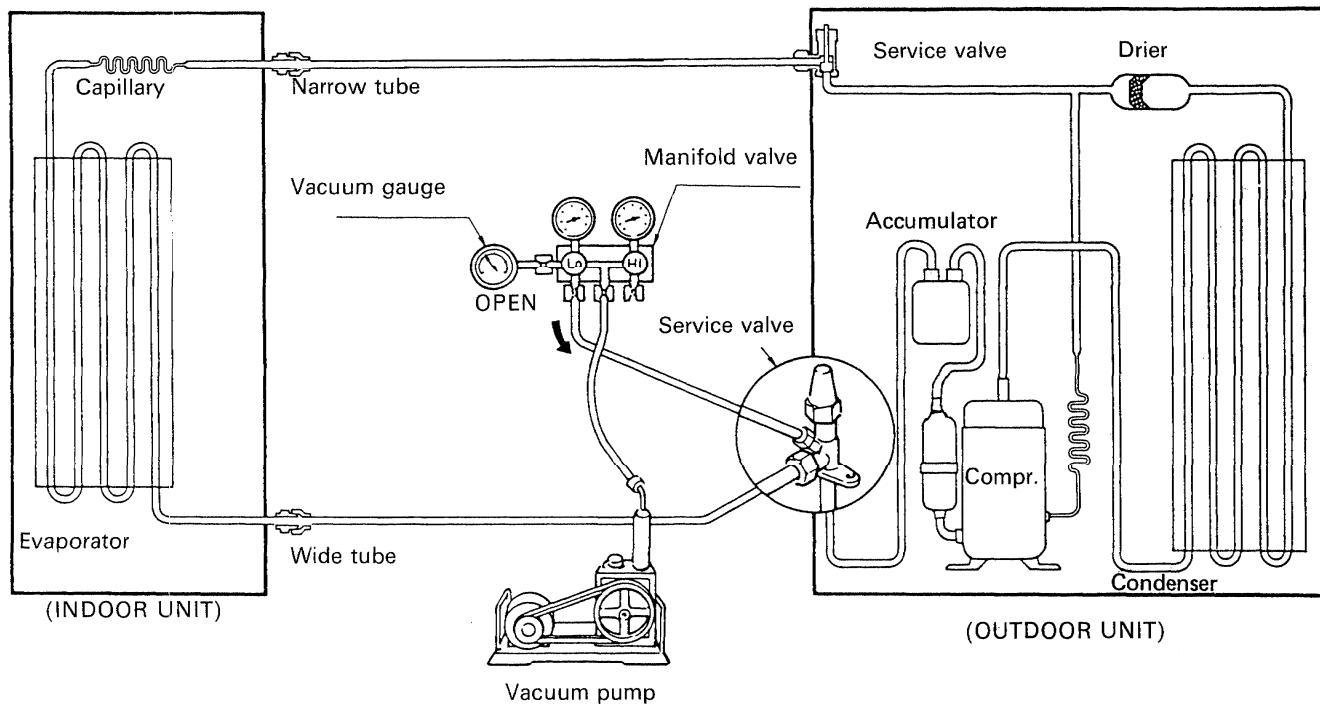

Fig. 7
- b) If no gas leakage is confirmed, Connect both vacuum pump and vacuum gauge to service valve through 1/4" port with a flare nut. See Fig. 7